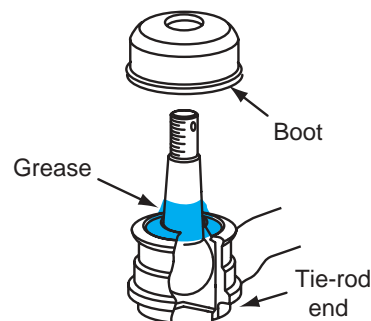

Figure 13-13 Packing the boot and tie-rod end with grease.
3. Wipe the grease off the sliding surfaces of the ball pin with a shop towel; then pack the lower area around the ball pin and body with grease (Figure 13-13).